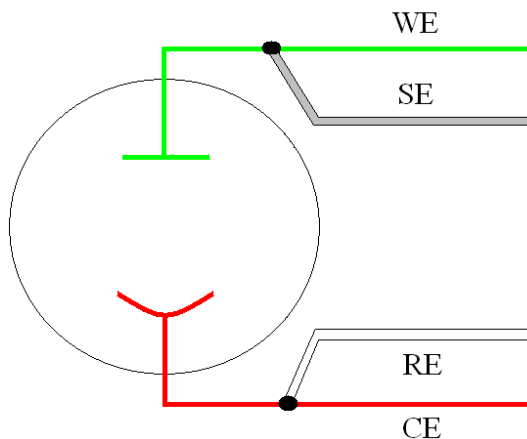

Figure 6. Two-Electrode Connection
- Green – Working (WE) electrode lead. This lead connects to the electrode of interest at which the desired reactions will occur. The current (I) is measured through the WE.
- Red – Counter (CE) electrode lead. This lead connects to the electrode opposite the WE and controls the power output of the VersaSTAT 3F.
- Gray – Sense (SE) electrode lead. This usually connects to the working electrode (the combination often referred to as the working-sense), and is a component of the differential amplifier that measures/controls the voltage between itself and the reference electrode.
- White – Reference (RE) electrode lead. This connects to the reference electrode, a component of the differential amplifier that measures/controls the voltage between itself and the sense electrode.
a) Batteries, capacitors, resistors, fuel cells, and some sensors are generally connected using a two-terminal connection (Figure 6). The connectors for the cable leads are designed to allow easy interconnection of the working/sense and reference/counter leads. **Note:** If your cell has low impedance (battery) and/or your experiment generates currents in excess of 100mA, do not connect the leads into one another for a two-terminal connection. Instead, connect the leads independent of one another to their proper terminal at the cell to prevent voltage offsets that can result from milliohms of contact resistance in a “piggy-back” connection as shown below.